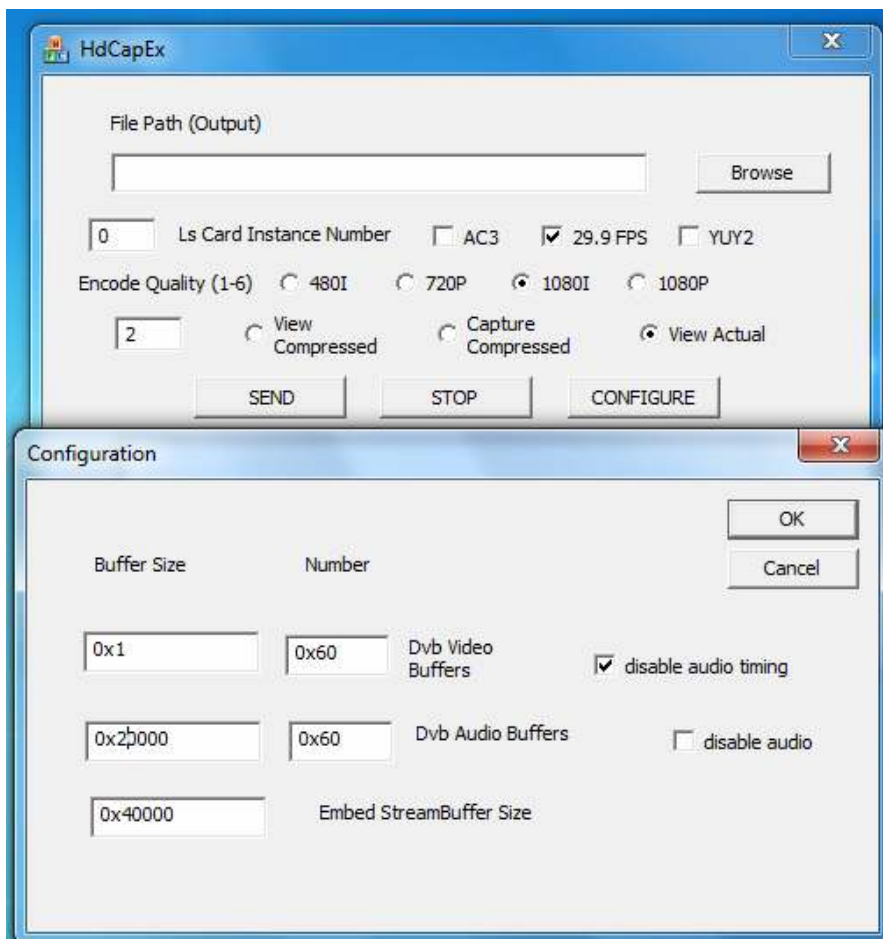

Figure 4.3 HdCapEx Window
- Use the Configuration window to alter the audio or buffer settings (Click on the CONFIGURE button to activate it and ok to close this window). The Configuration window displays the default buffer values and choice to enable or disable audio. Enter correct buffer setting as per your requirement; however it is recommended to use the buffer values as is shown in the “Configuration” window of **Fig 4.3**.